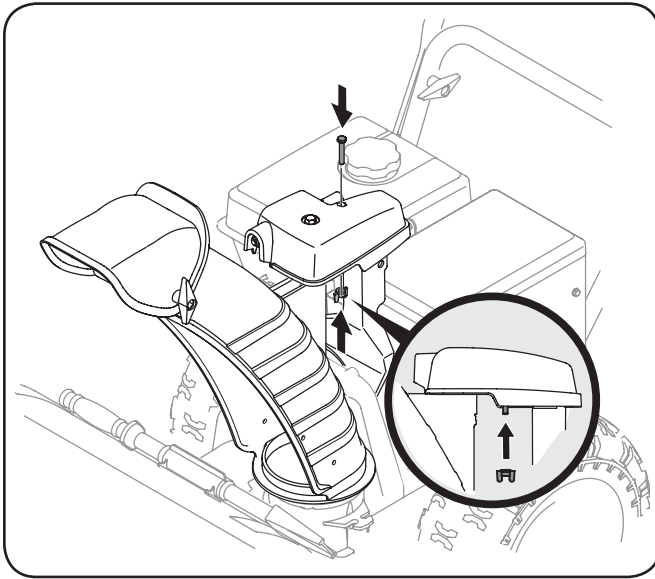

Figure 3-14
3. Finish securing chute control assembly to chute support bracket with wing nut and hex screw removed earlier. See Fig. 3-14.